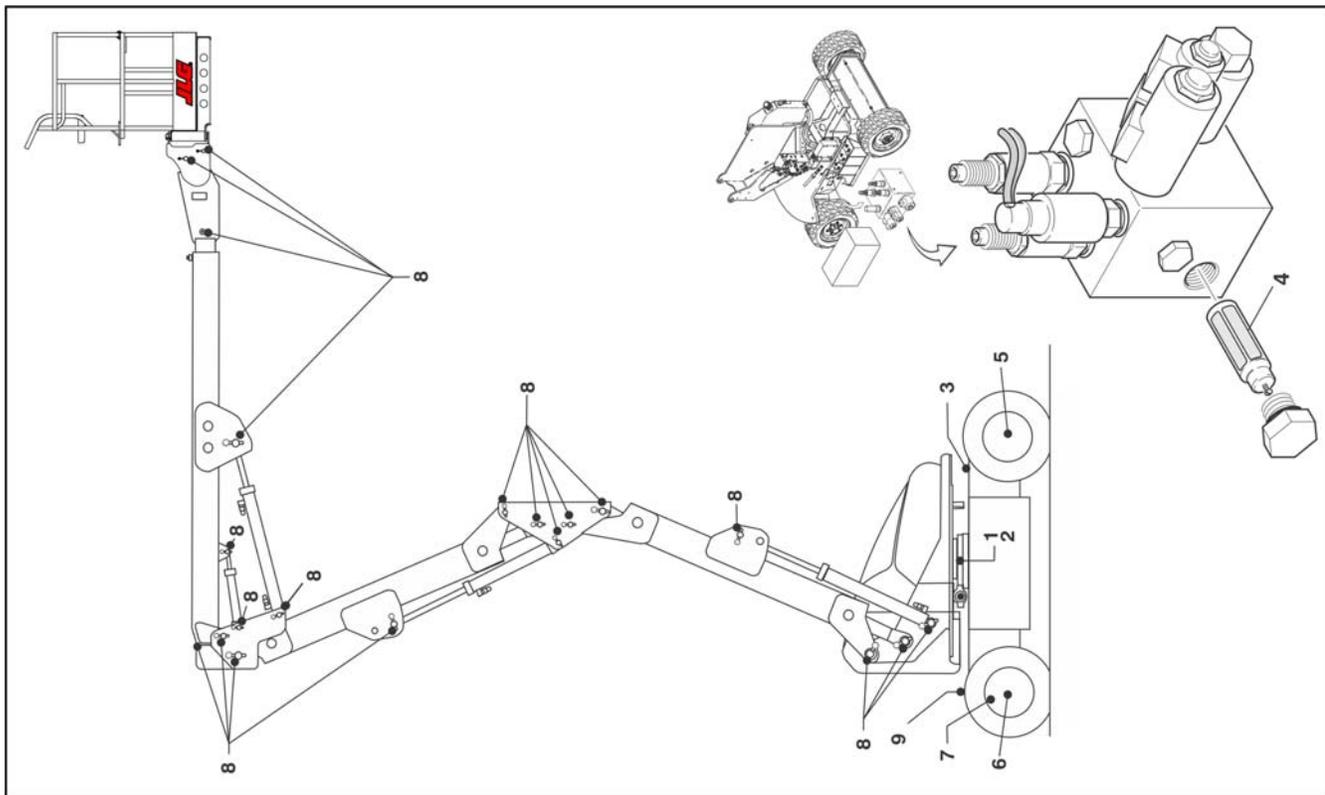

Figure 7-3. M450 Maintenance & Lubrication Diagram
**NOTE:** The following numbers correspond to those in Figure 7-2. and Figure 7-3.